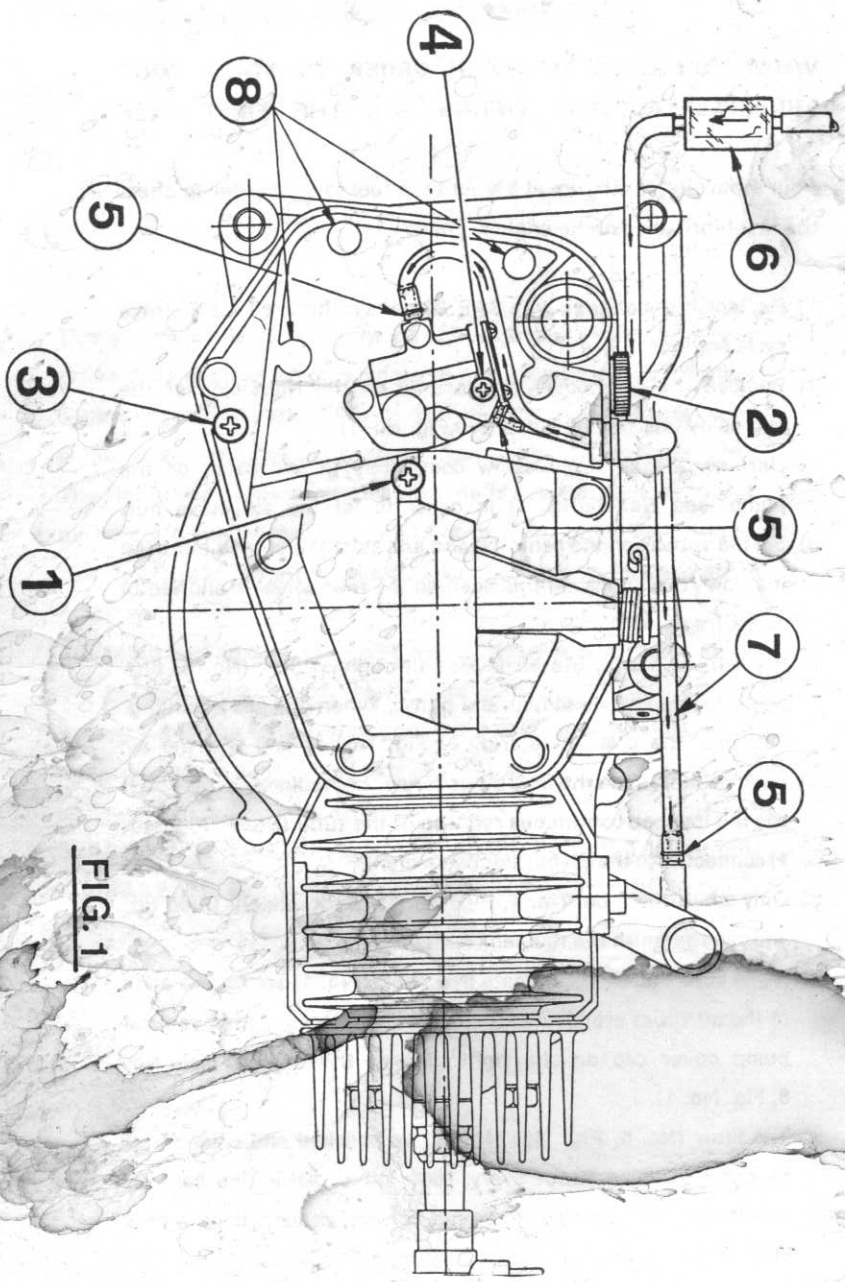

FIG. 1
- 3) Unscrew the air drain screw completely (it is located on the pump, see No. 4 Fig. 1) in order to let the air move out.